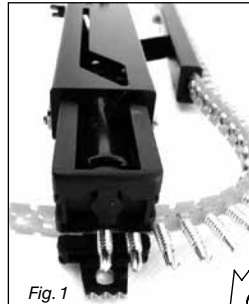

Fig. 1
3. Insert a strip of screws into the feed track. Pull it through and insert the front into the index module until the first screw is in driving position in the center of the nose. (See Fig. 1) When the screw strip is inserted into the tool, make sure the strip is positioned like an arc. (See Fig. 1b) If the strip is too straight between the feed track and the index module, it may affect the smoothness of the operation.